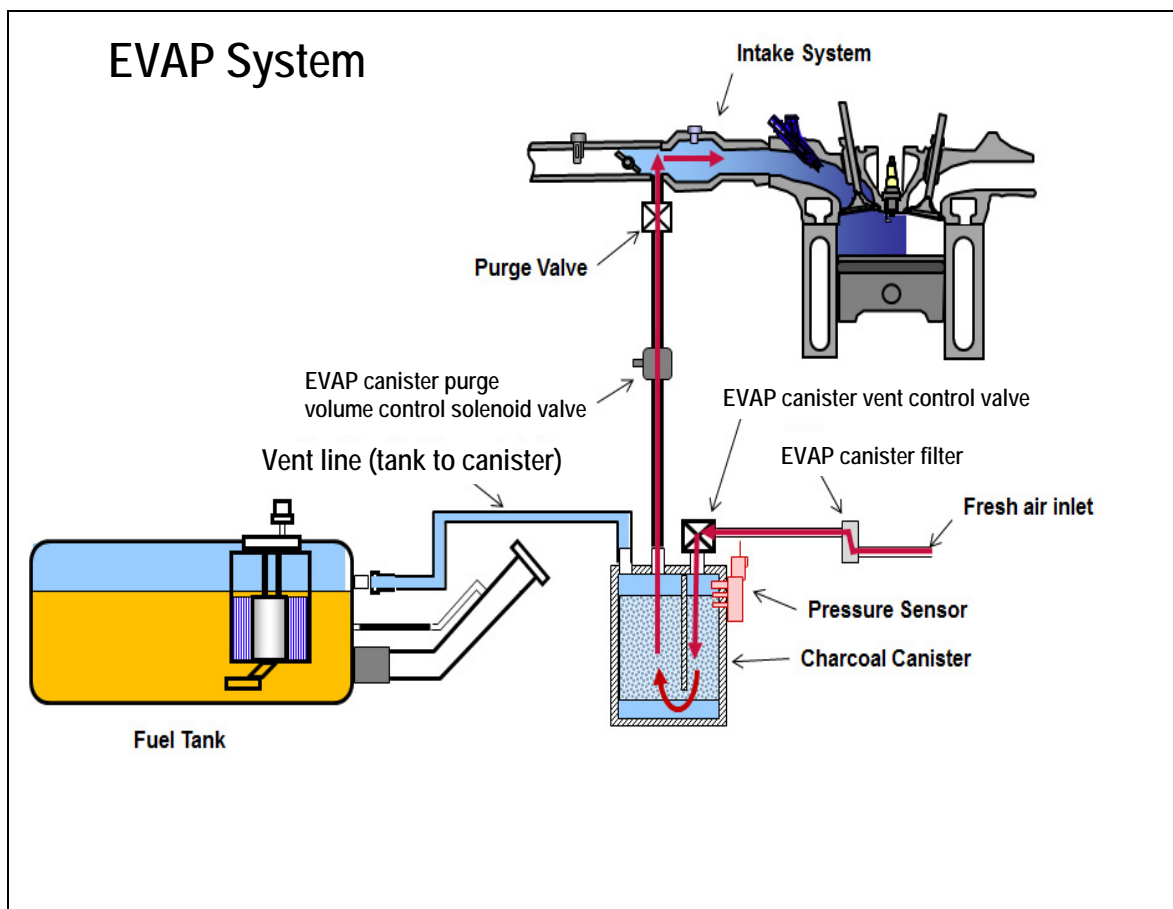

Figure 2
7. Is the vent line part of the tank assembly? See Figure 2 for reference.
Figure 2 below illustrates a basic evaporative emissions system and is for reference only.